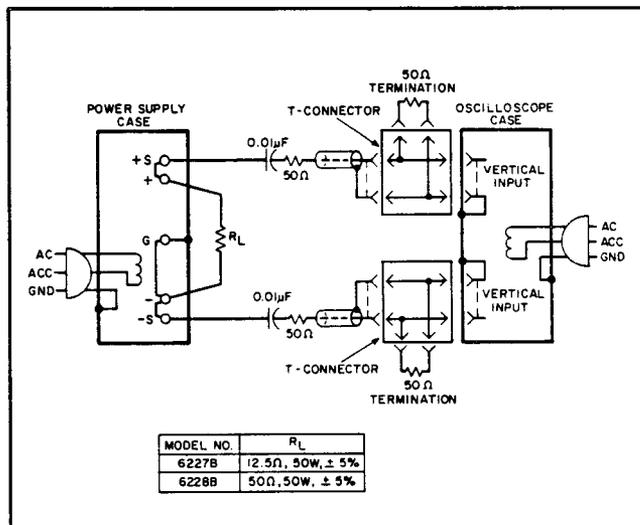

Figure 5-4. Noise Spike Measurement Test Setup
- As shown in Figure 5-4, two coax cables must be substituted for the shielded two-wire cable.
5-26 The setup of Figure 5-4 can also be used for the normal measurement of low frequency ripple; simply remove the four terminating resistors and the blocking capacitors and substitute a higher gain vertical plug-in in place of the wide-band plug-in required for spike measurements. Notice that with these changes, Figure 5-4 becomes a two-cable version of Figure 5-3B.